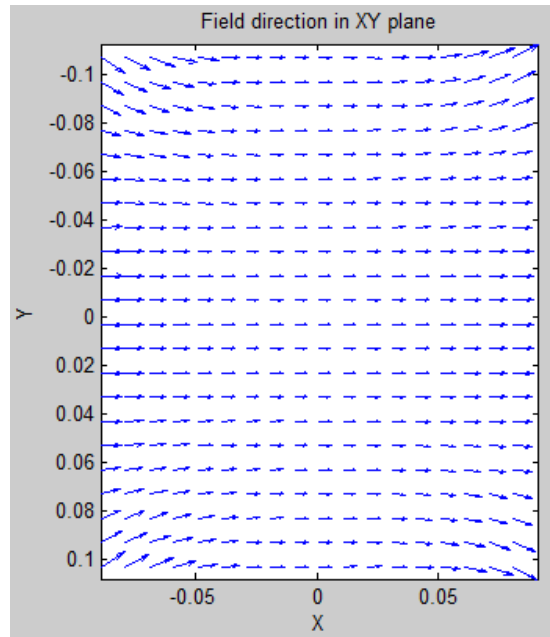

Figure 5.42: An Example of B1 Field on XY Plane.
- \wedge : Undock field on active slicing plane (Figure 5.42)